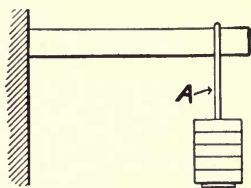

FIG. 103.
1. What name should be applied to the stress produced at point A in Fig. 103?